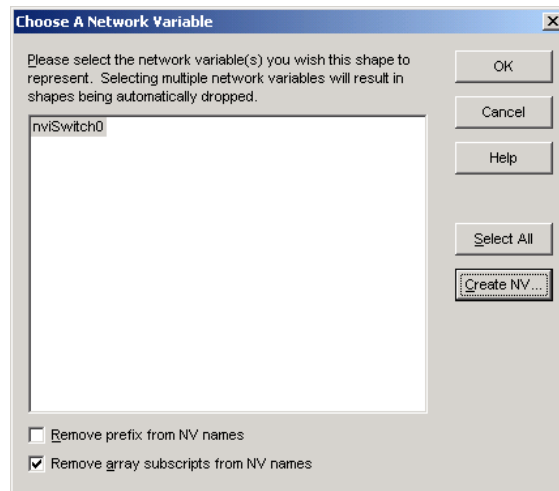

Figure 89: We have created a new input network variable in the Proxy functional block.
9. Click **OK**. The dialog shown in Figure 89 appears.